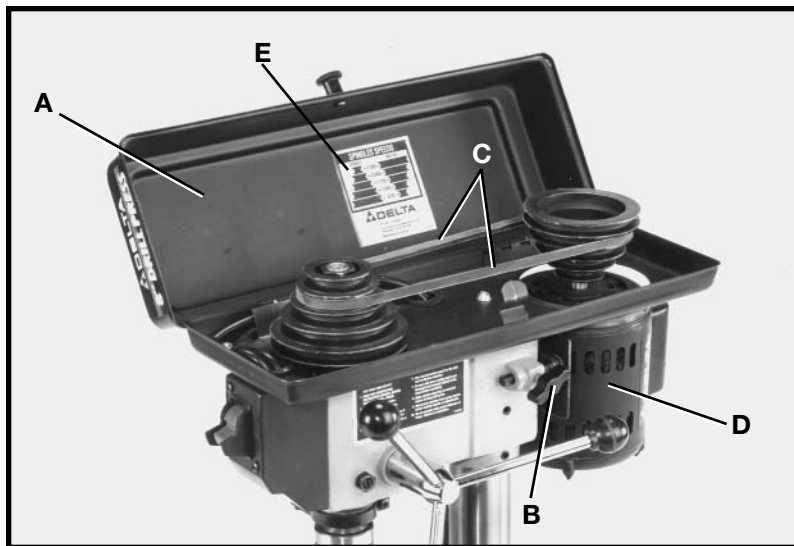

Fig. 27
NOTE: A BELT POSITIONING SPEED CHART (E) FIG. 27, IS CONVENIENTLY LOCATED ON THE INSIDE TOP COVER OF THE DRILL PRESS.
2. Lift up the belt and pulley guard (A) Fig. 27.
3. Release belt tension by loosening tension lock knob (B) Fig. 27, and pivoting the motor (D) toward the front of the drill press.
4. While holding the motor toward the front of the drill press head, position the belt (C) on the desired steps of the motor and spindle pulleys, as shown in Fig. 27.
5. After the belt is positioned on the desired steps of the motor and spindle pulleys, pivot motor (D) Fig. 27, away from the drill press head until the belt is properly tensioned and tighten tension lock knob (B). The belt should be just tight enough to prevent slipping. Excessive tension will reduce the life of the belt, pulleys and bearings. Correct tension is obtained when the belt (C) can be flexed about 1" out of line midway between the pulleys using light finger pressure.